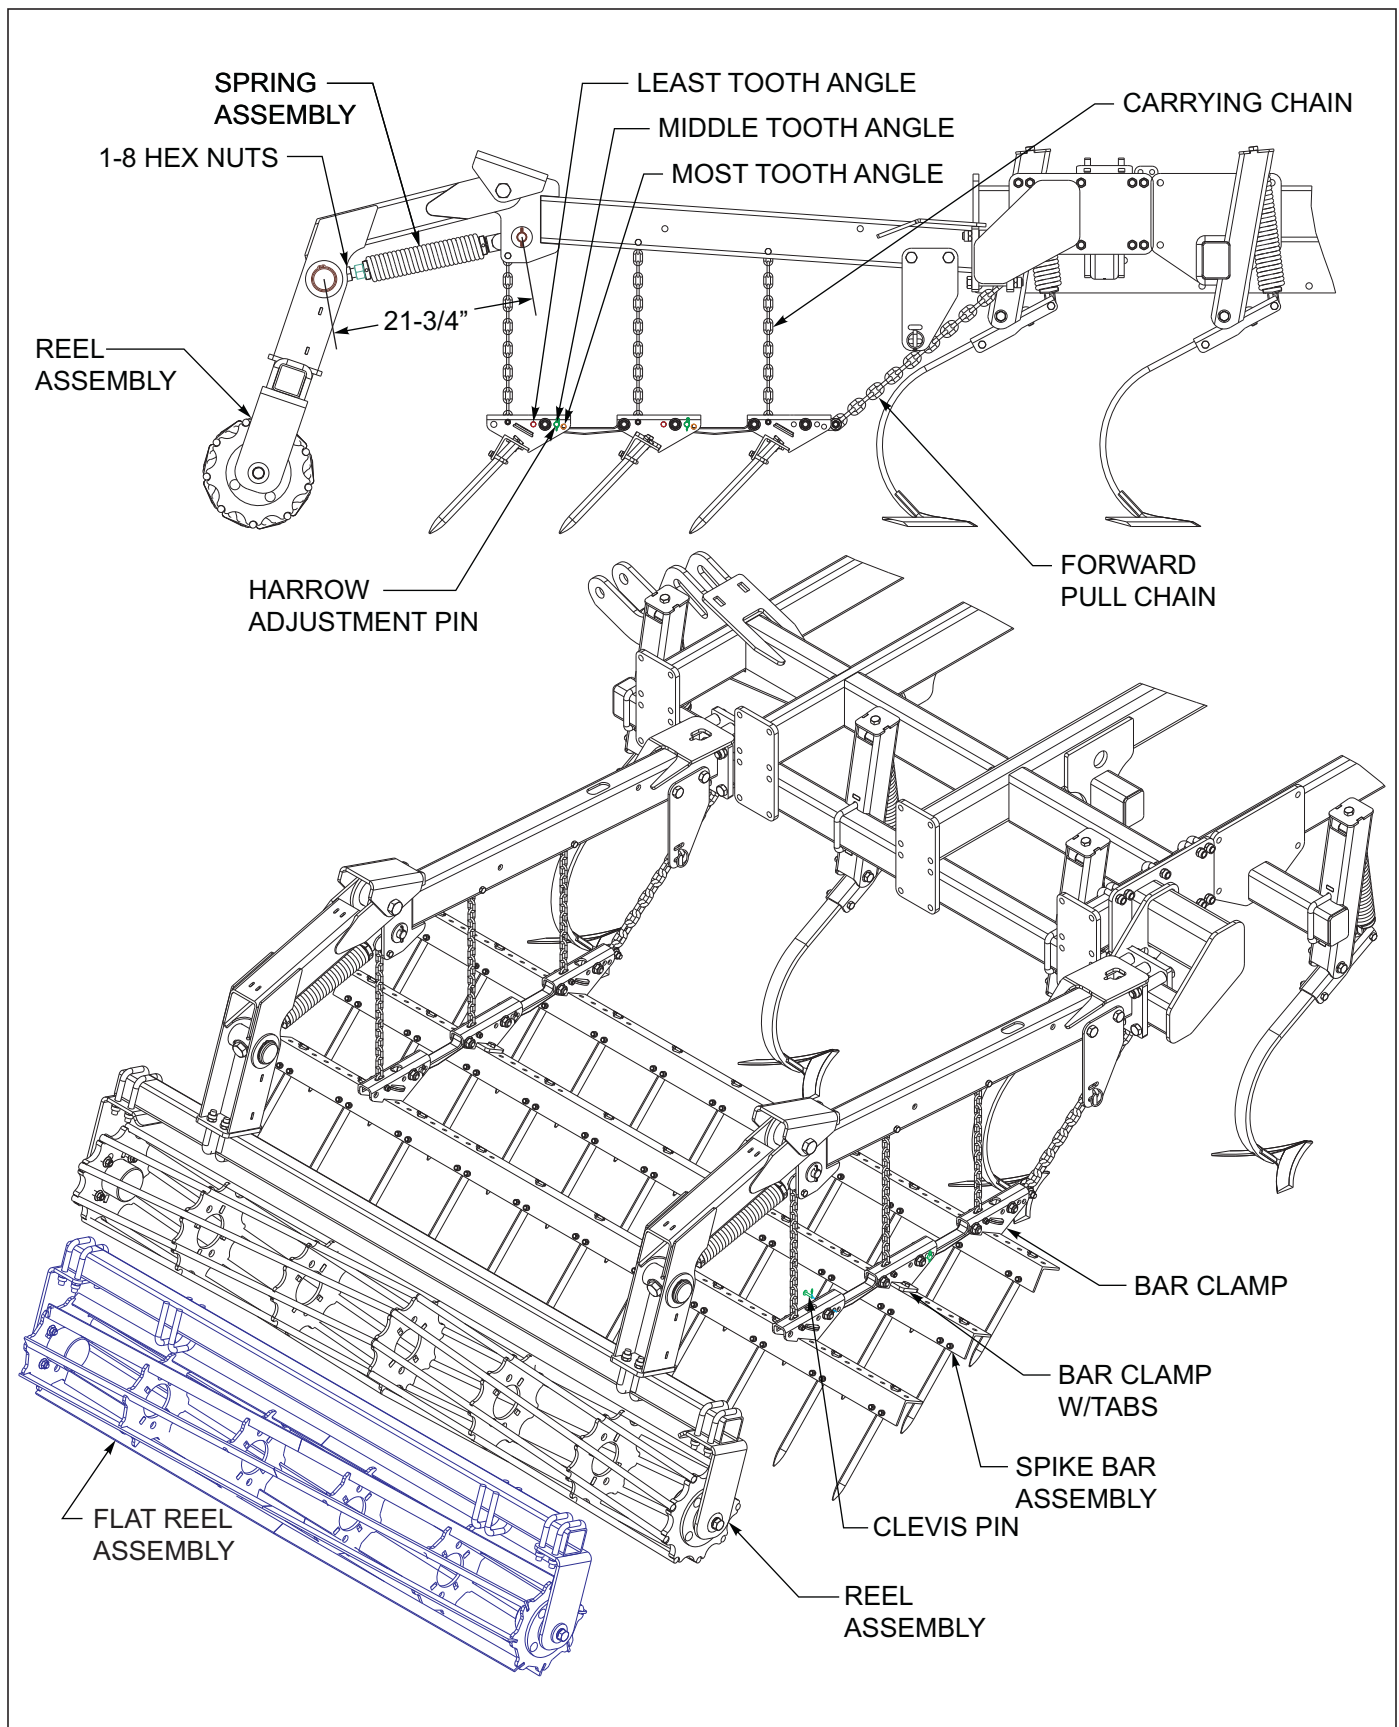

Figure 4-20: 3 Row Spike and Reel Adjustments
3. For the most aggressive spike tooth action, install the harrow adjustment pin in the forward mounting hole over each bar clamp for each spike bar *See Figure 4-20*. This will position the spike teeth to be in the most vertical position. In wetter or conditions with some residue, lower the spike tooth angle by positioning the harrow adjustment pin in the middle or rear hole. This will allow the teeth to lay flatter and shed more residue.
3. For the most aggressive spike tooth action, install the harrow adjustment pin in the forward mounting hole over each bar clamp for each spike bar See Figure 4-20. This will position the spike teeth to be in the most vertical position. In wetter or conditions with some residue, lower the spike tooth angle by positioning the harrow adjustment pin in the middle or rear hole. This will allow the teeth to lay flatter and shed more residue.